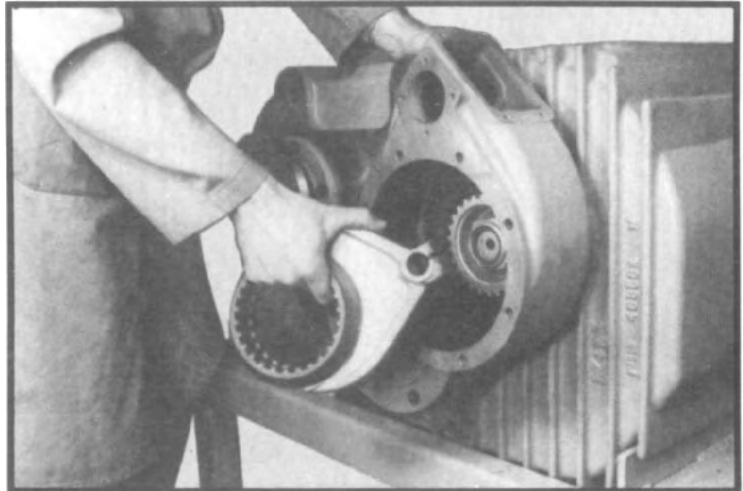

Fig. 175
2. Slide clutch collar onto shift fork and install the two parts together into the PTO/declutch housing, sliding the clutch collar over the declutch gear. The tapped holes in the shift fork must face toward indicator switch position. (See fig. 175))